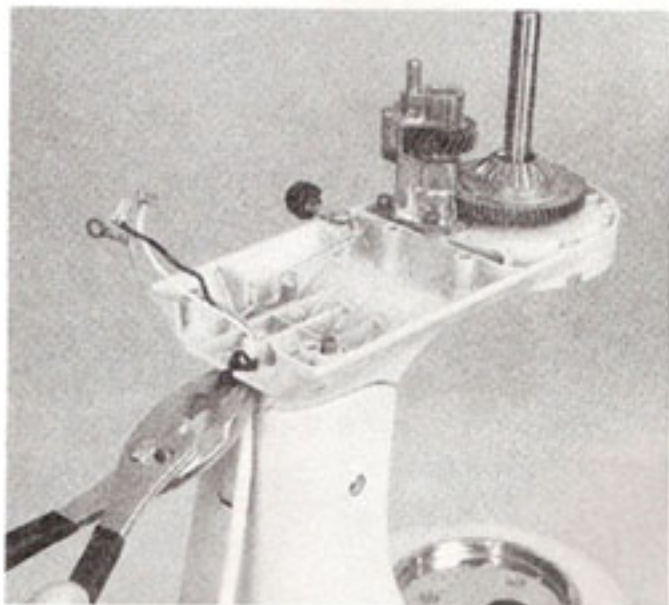

Fig. 13
- H. To remove the cord and plug from the bottom cover, use a pair of heyco pliers and squeeze the heyco strain relief and pull out (Fig. 13). To replace the cord and plug, reverse this procedure.